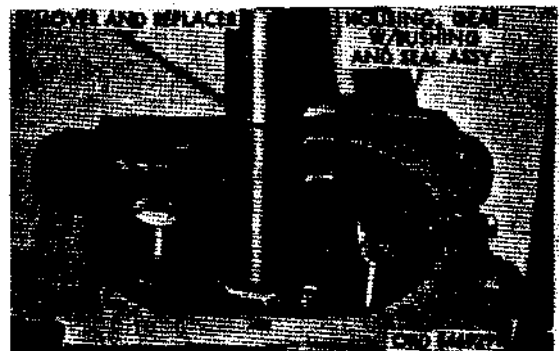

Figure 163. Pressing out pitman arm shaft bushing
- (1) To install new pitman arm shaft bushings, use remover and replacer tool 5120-795-0137, reamer 5110-795-0248 and burnishing tool 5120-795-0139. Press inner pitman arm shaft bushings (N) from gear housing (M), using remover and replacer 5120-795-0137 (fig. 163).